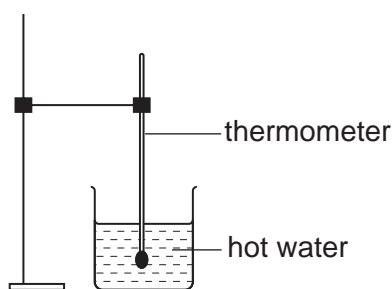

Fig. 2.1
2. The beaker of hot water, thermometer, boss, stand and clamp are to be set up for the candidate as shown in Fig. 2.1. The candidates must be able to lift the thermometer out of the beaker of hot water by simply moving the stand and not removing the thermometer from the clamp.
Action at changeover: replace the hot water and check that the apparatus is set up as in Fig. 2.1.